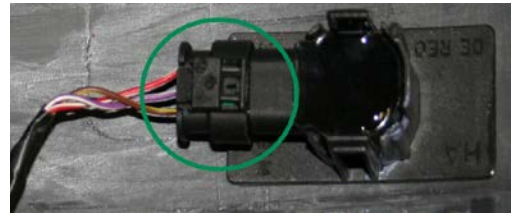
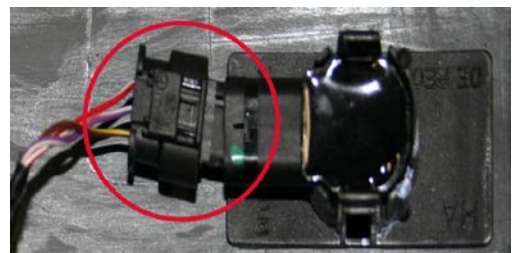

Figure 12. A correctly installed parking aid sensor connector.
Figure 13. A parking aid sensor connector that is not seated correctly.
13. Check the connectors on the parking sensors and the socket box for correct installation (Figure 12, Figure 13). If the connectors are not installed properly, reinstall.